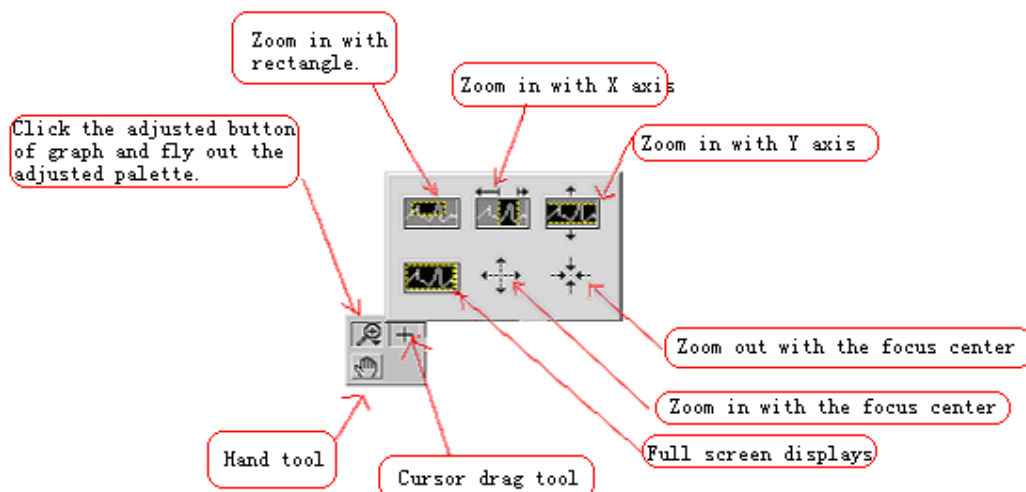

Figure 23
3. Graph palette: to enlarge, or move the displayed plot; (See Figure 23)